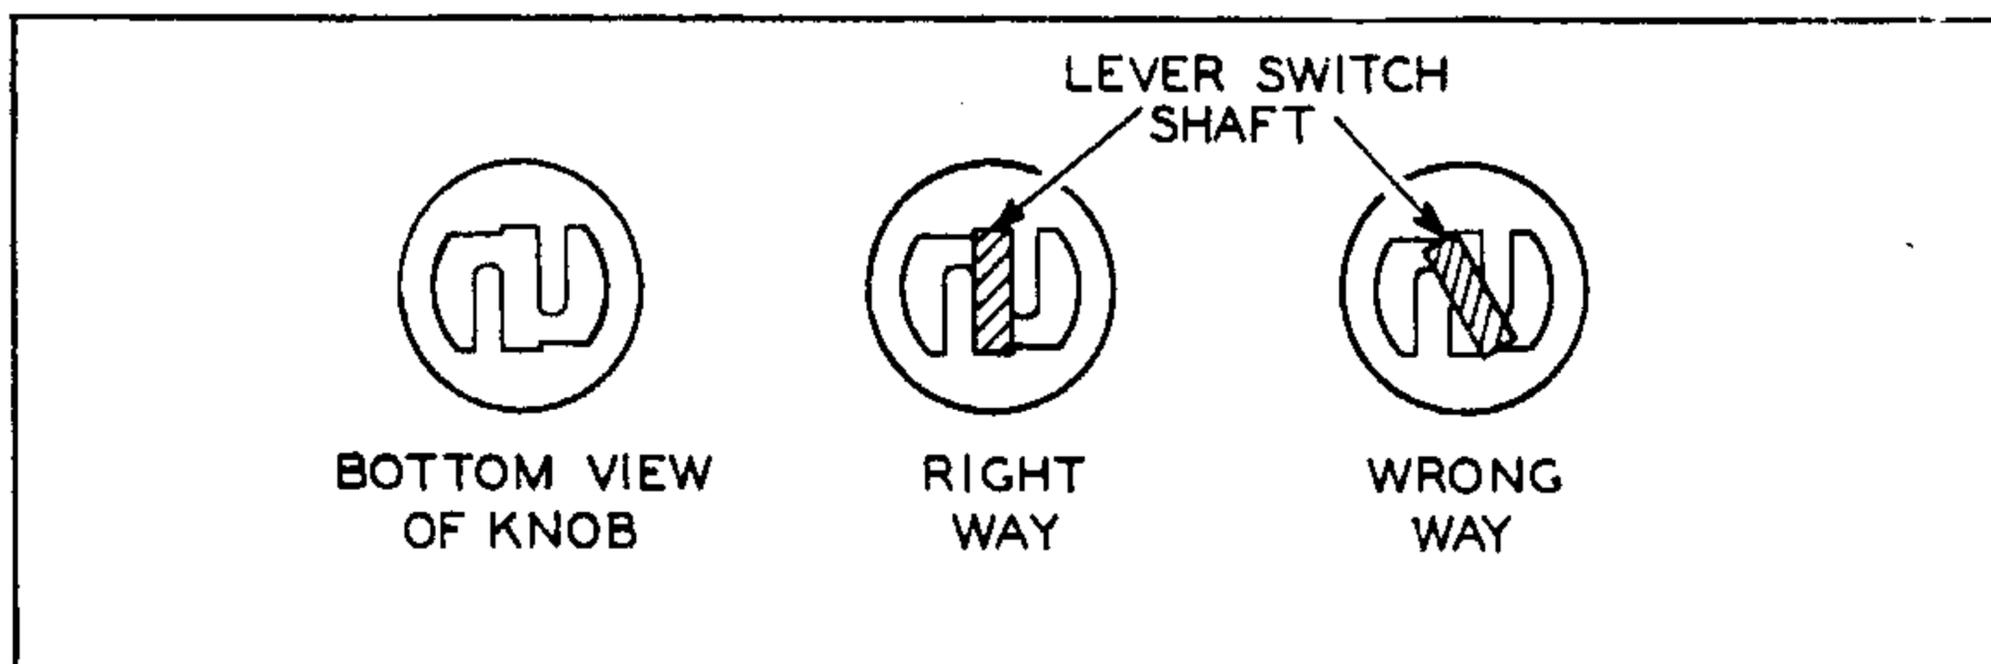

FIGURE 14. HOW TO PUT KNOBS ON THE LEVER SWITCHES
- 10 lever switch knobs. Push a knob on each shaft of S-4, as shown in Figure 14.